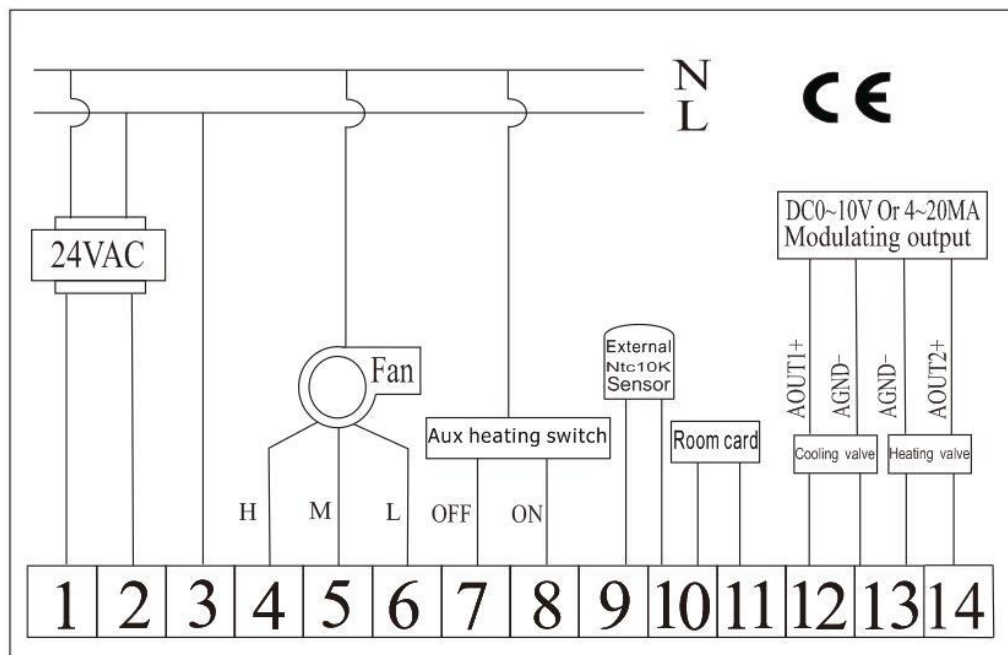

Figure 4
2. Connect wires beneath terminal screws on power supply module using appropriate wiring schematic. See figure 4
5. Replace control panel on the power base and fix power base and control panel by removed two screws in item 1
‘h1: Only proportional output for heating control is available, terminal 12 and 14 (See Figure 4) is used as 0-10V or 4-20mA modulating output to control heating or cooling
‘h2: 2 stage heating active. Terminal 12 and 14 (See Figure 4) is used as 0-10V or 4-20mA modulating output to control 1st stage heating. Terminal 7 and 8 (Figure 4) is the On/Off output to
‘h3: Only On/Off output for heating control is available. Terminal 7 and 8 (Figure 4) is the On/Off output to control heating.